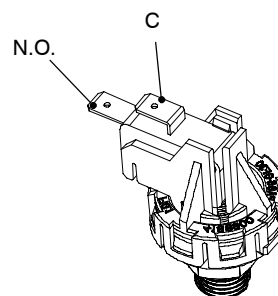

Fig. 2
- 1 Measure the electrical resistance between the tabs marked C. and N.O. (Fig. 2). The contact must close (resistance zero) with c.h. pressure of 0,35 bar or higher.